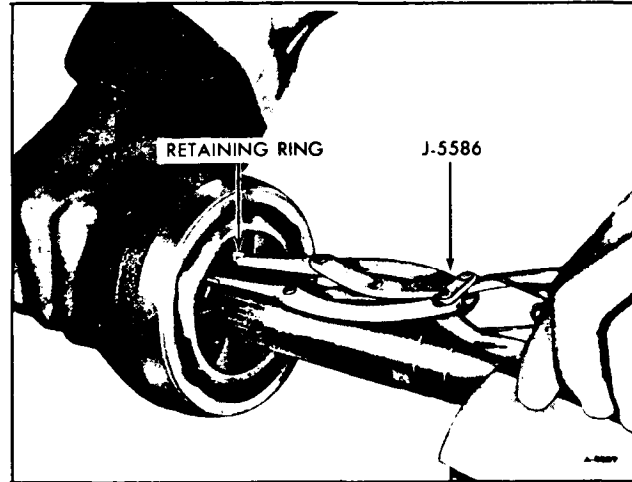

Figure 8—Removing Retaining Ring
5. Using Tool J-5586, spread retaining ring until C.V. joint can be removed from axle spline. (figure 8)